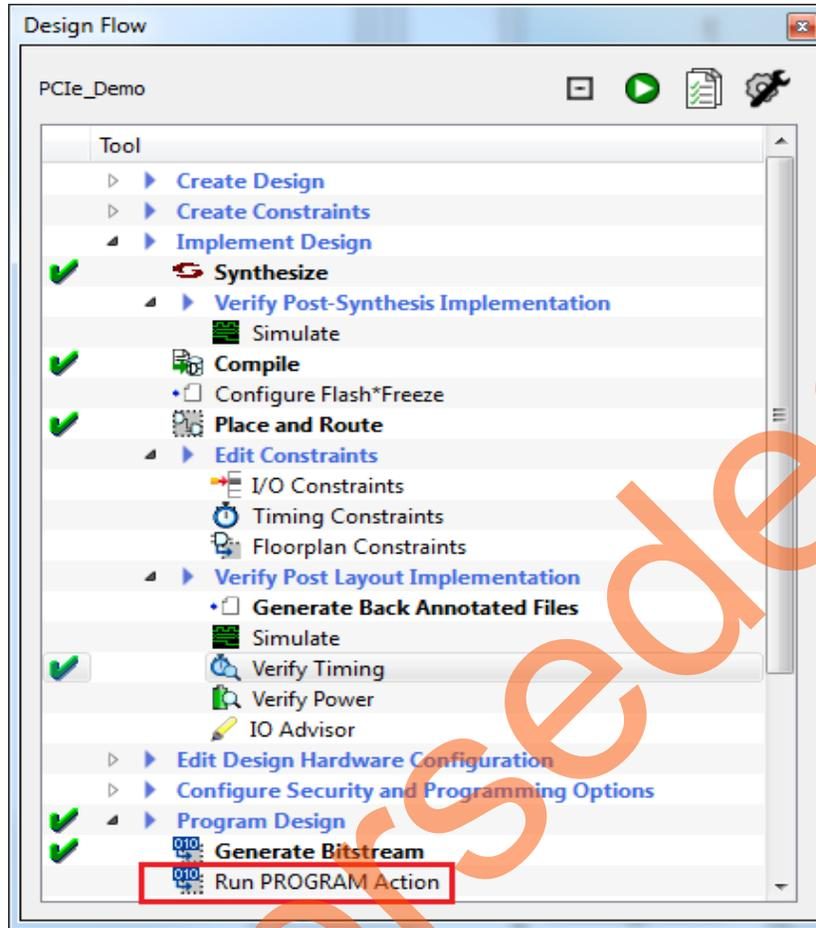

Figure 50 • Run PROGRAM Action
5. To program the IGLOO2 device, double-click **Run PROGRAM Action** in the **Design Flow** window as shown in Figure 50 on page 50.